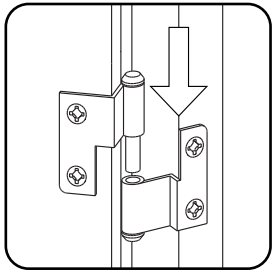

Figure 4
Attach Doors (G), (H), (R) and (S) to unit by sliding door hinges into side panel hinges. (See Figure 4)